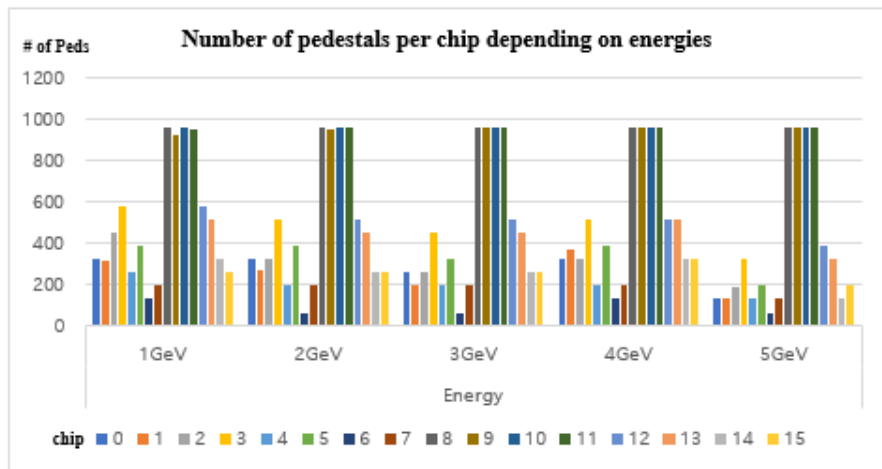

Fig.10 The number of pedestals per chip of slab 2 depending on energies
- As we can see in **Fig.10**, the number of triggers (pedestals) were concentrated into chip 8,9,10 and 11.